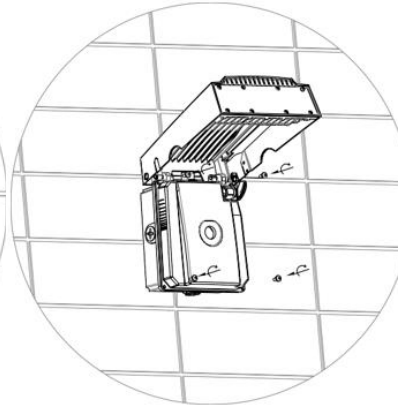

Fig. 3
4. Use appropriate holes. Screw and tighten the back cover with the housing. (Fig. 3)